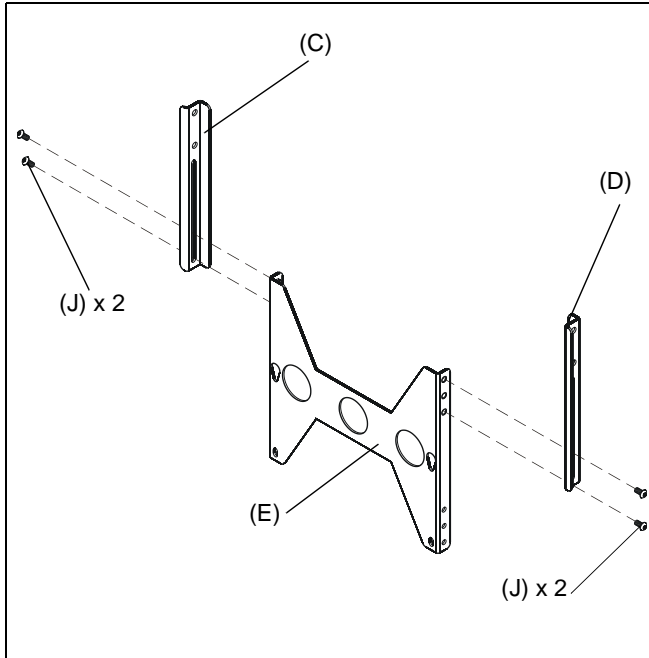

Figure 1
1. Assemble L.H. bottom speaker mounting bracket (D) to center speaker mounting bracket (E) using two 1/4-20 x 1/2" button head cap screws (J). (See Figure 1)
2. Assemble R.H. bottom speaker mounting bracket (C) to center speaker mounting bracket (E) using two 1/4-20 x 1/2" button head cap screws (J). (See Figure 1)